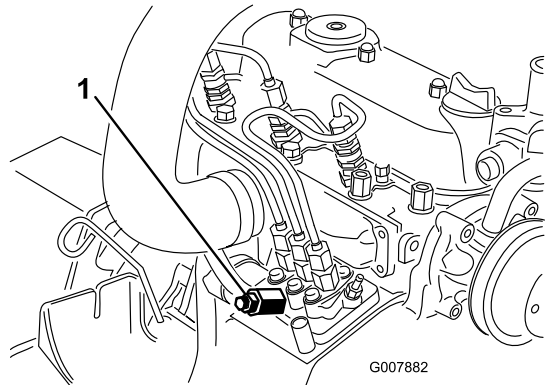

Figure 37
3. Place a rag under the air-bleed screw on the fuel-injection pump and open it (Figure 37).